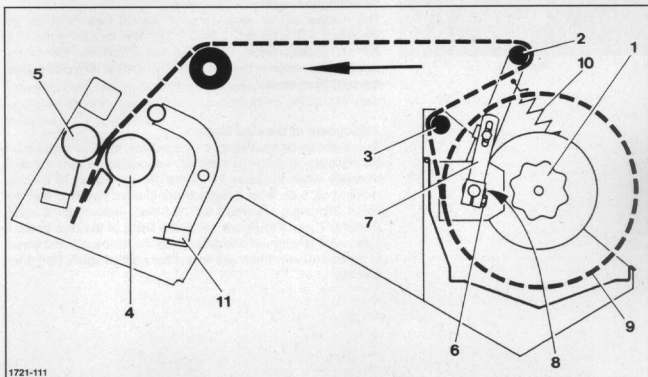
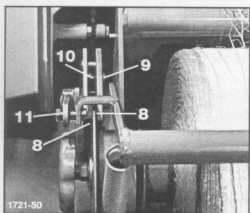
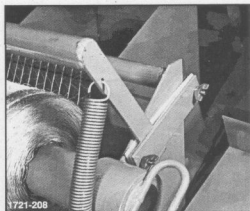

Figure 16
Figure 18
Figure 19
Open the guard above the net wrapping unit. Push the net tensioner 2 (Figure 16) backwards and lock it in this position with the split pin on the right side of the net retainer. Take the net roll holder (in the driving direction on the left) by its handle, unlock it by turning it briefly to the right and remove it from its mounting. Push the net roll onto the net roll holder (in the driving direction on the right). Guide the detached net roll holder into the cardboard centre of the net roll and secure it again by turning it to the left. Move the net roll so that it is in the centre of the roll chamber and then tension it by strongly turning the handwheel (Figure 16).
The net wrapping unit is reset automatically each time the tailgate is opened. If, when the baling chamber is full, the net must be tripped a second time without opening the tailgate (in the event of a fault or net roll change), resetting can be done manually. Pull lever 11 (Figure 16) forward against the spring tension as far as possible. Tripping follows as normal by pressing the green pushbutton.
To prevent an overrun effect on the net roll, the disc brake must be adjusted so that it is only just impossible to turn the disc manually when the lever 11 (Figure 18) is vertical. To do this, loosen bolt 6 on lever 7, tighten the knurled nut 8 so that the brake linings are in contact with the disc. Tighten bolt 6 again (items 6, 7 and 8 in Figure 16). If the lining of the disc brake 8 (Figure 18) is worn on one side, undo the lock nut 9 and screw in the bolt 10 until the brake linings are parallel again. Retighten bolt 10.
The movements of the net tensioner 2 (Figure 16) are braked on the machine side by a vibration damper (Figure 19).